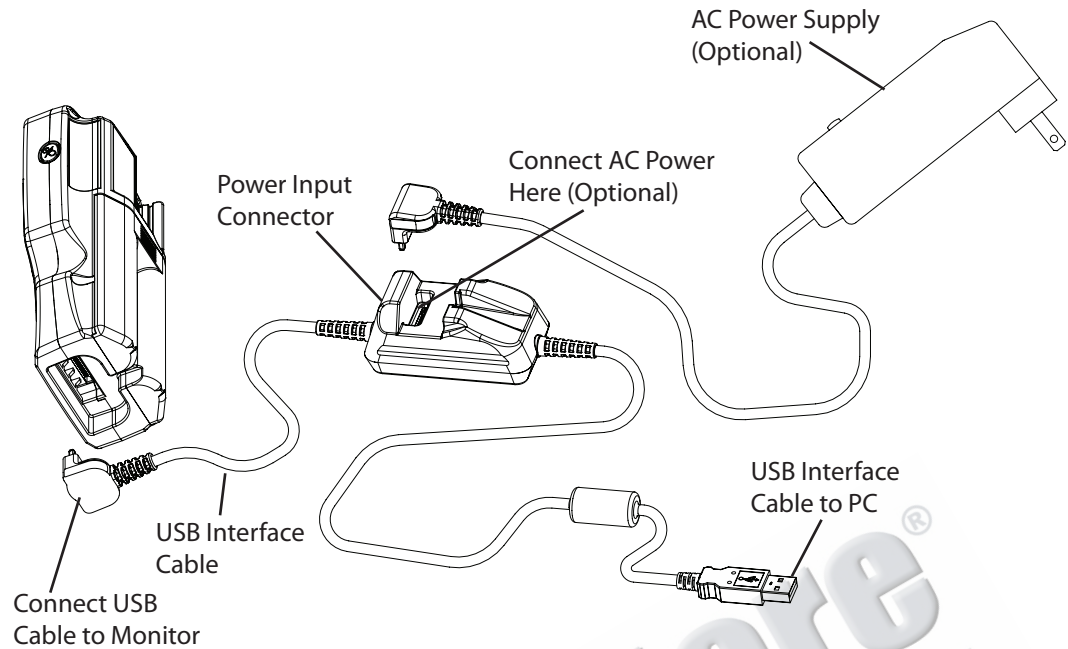

Figure 4-5: USB Power to Oximeter
- The oximeter can be powered by a PC through the USB Interface cable (Figure 4-5).